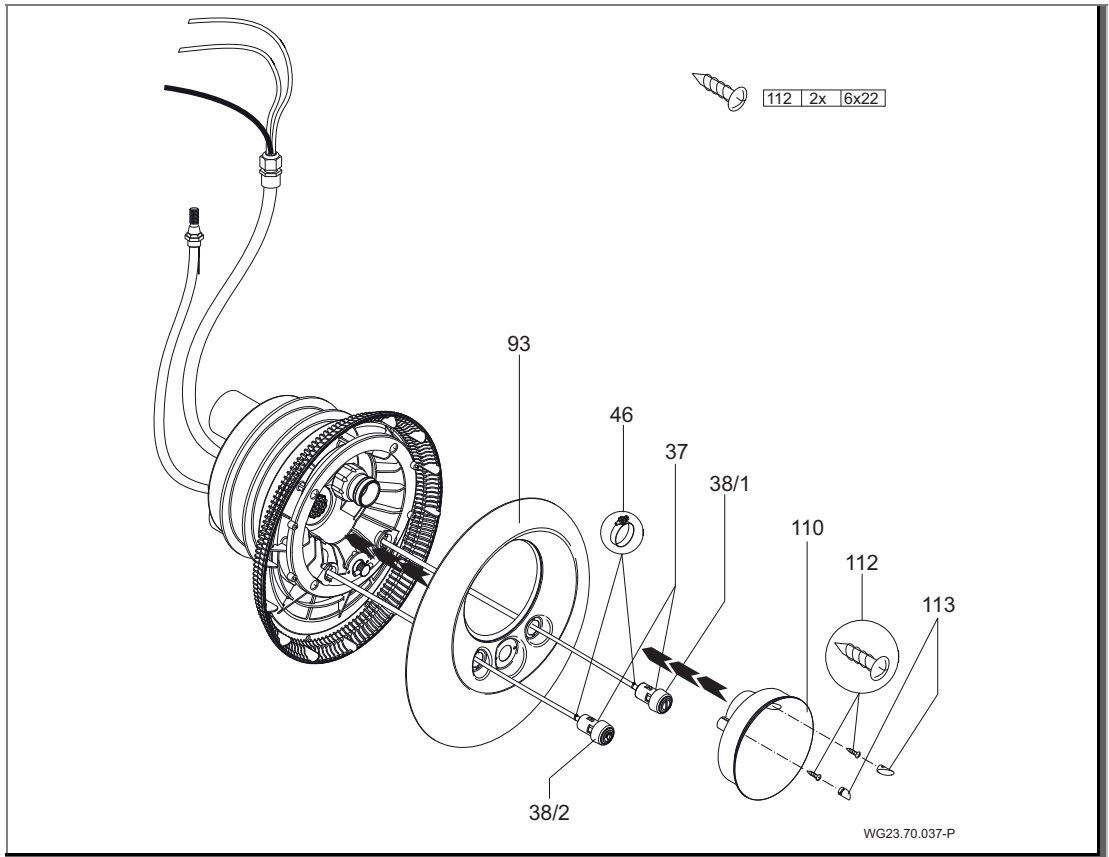

Fig. 18
7. Lead the pneumatic hoses through the openings in the stainless steel cover (93) and fasten them to the corresponding buttons with hose clamps (46); Light ON/OFF left; Pump ON/OFF right. (Fig. 18)